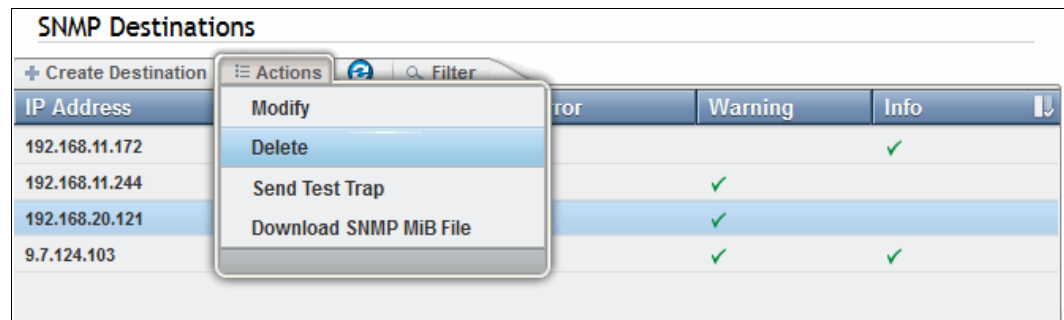

Figure 4-29 SNMP Traps actions
4. From the SNMP Traps window, select **Actions** to modify or delete an existing destination server, send a test trap, or download the SNMP MIB file. Figure 4-29 shows these options.
To download the configuration MIB file, select **SNMP Traps**, as shown in Figure 4-29 on page 219. Then, with the IP address highlighted, select **Actions** → **Download SNMP MiB File**.